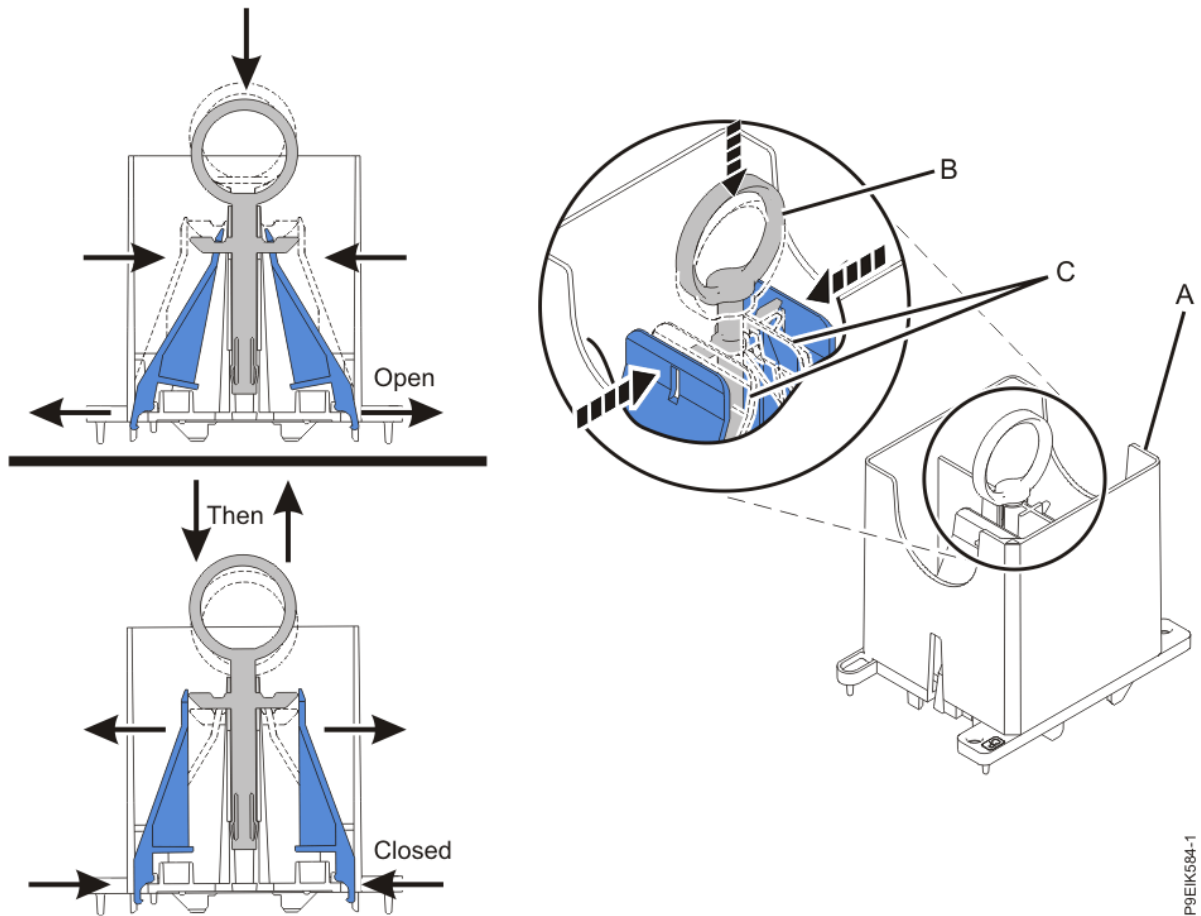

Figure 216: Ensuring that the removal tool is in the open position
- a) Ensure that the removal tool (**A**) is in the open position as shown in Figure 216 on page 263. The middle ring (**B**) must be pushed down and blue tabs (**C**) must be turned inward.